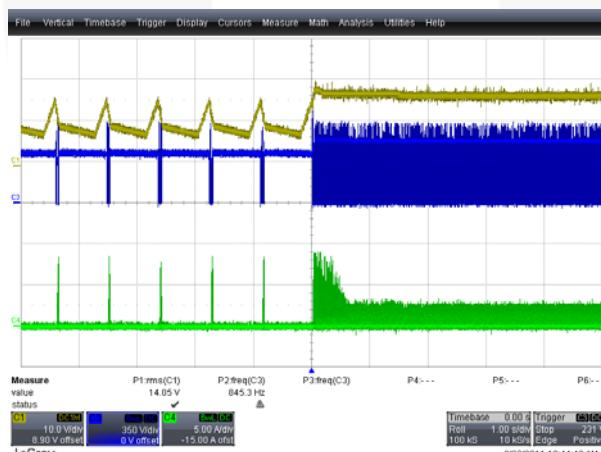
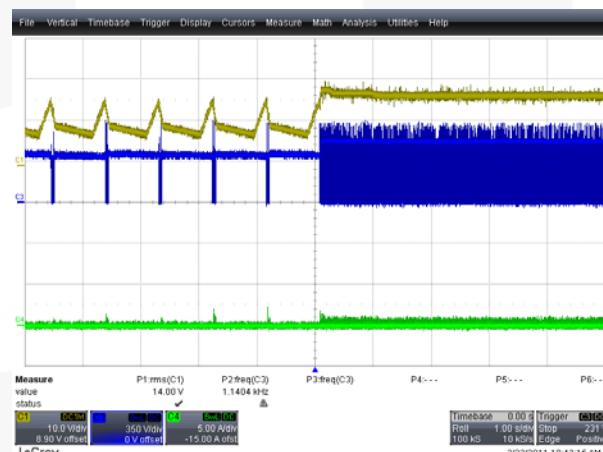

Figure 45. 90VAC / 60Hz, CH1 (Yellow):  $V_{CC(QR)}$ , CH3 (Blue):  $V_{DS(QR)}$ , CH4 (Green):  $I_{DS(QR)}$
Figure 46. 277VAC / 60Hz, CH1 (Yellow):  $V_{CC(QR)}$ , CH3 (Blue):  $V_{DS(QR)}$ , CH4 (Green):  $I_{DS(QR)}$
Figure 45 and Figure 46 show the  $V_{DS}$  and  $I_{DS}$  waveforms of the MOSFET (QR) when short circuits at output load were removed.